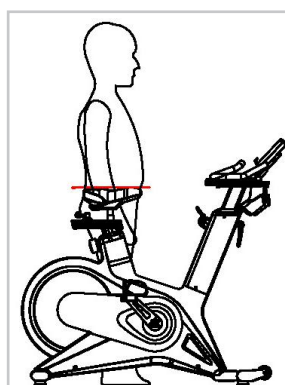

FIGURE 4
1. Standing upright next to the bicycle, adjusting the bicycle cushion to the buttocks position. As shown in Figure 4.